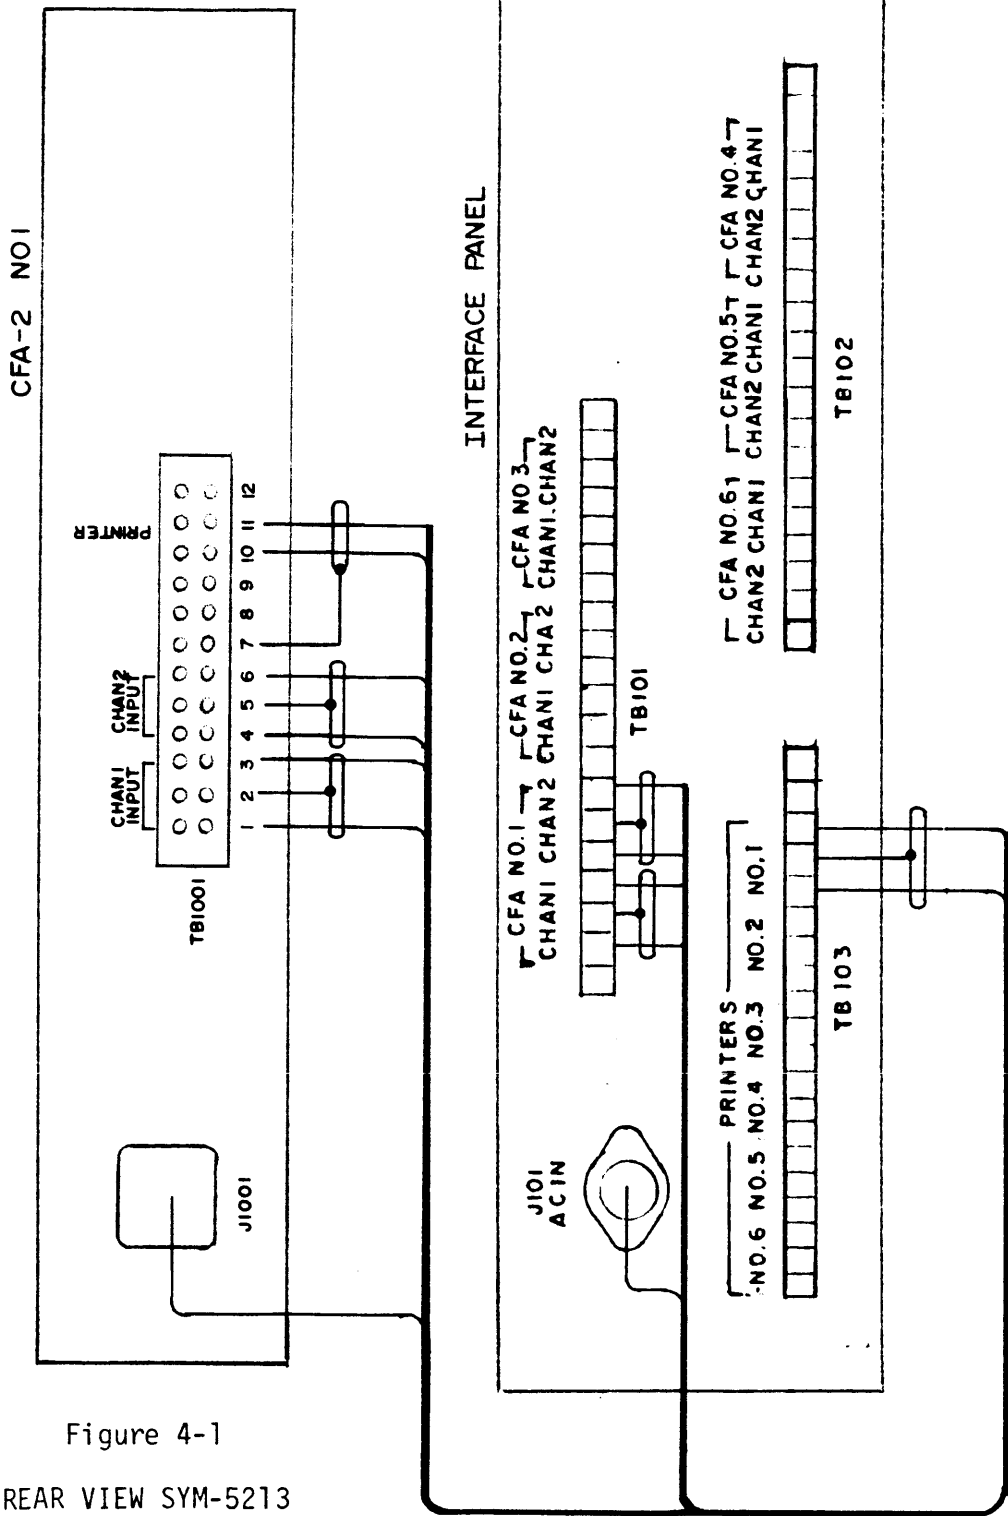

Figure 4-1
The SYM-5213 system consists of (6) CFA-2 units, all inputs and outputs including AC power for all of the units are junctioned at the interface panel located in the rear of the rack. Figure 4-1 and Figure 7-1 in this section details all internal rack wiring and Section (4) page 4-0 of Appendix A describes in length the Principles of Operation of a CFA-2.